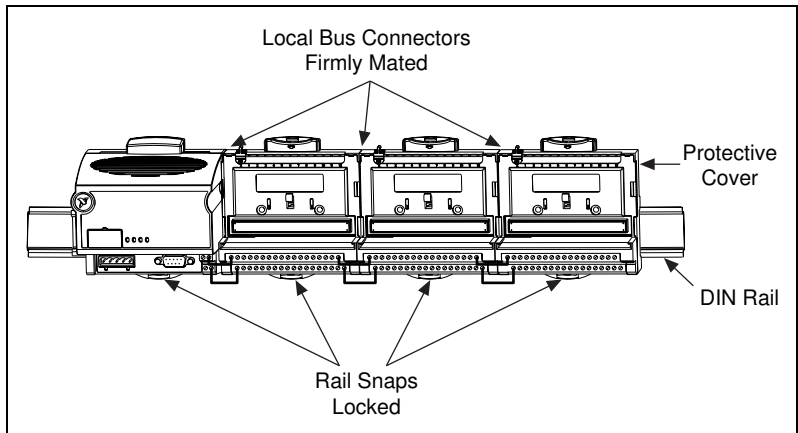

Figure 3. FP-1000 Network Module and FP-TB-1 Terminal Bases
6. Install each FP-TB-1 terminal base onto the DIN rail in the same way you installed the FP-1000 network module. As you install them, slide each terminal base along the DIN rail until its local bus connector is firmly mated with the connector of the terminal base or network module adjacent to it, as shown in Figure 3.
Figure 3 shows the assembled terminal bases and network module.